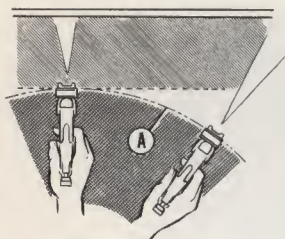

Fig. 103
The stroke is made with a free arm motion, keeping the gun at right angles to the surface at all points of the stroke. The ends of the strokes are "feathered" out by triggering the gun. Correct triggering involves beginning the stroke before pulling the trigger and releasing it just before ending the stroke. (See Fig. 103.) Arcing the gun (A) results in uneven application and excessive overspray at each end of the stroke. When the gun is arced 45° away from the surface, approximately 65% of the material is lost. *Lap each stroke 50% over the preceding one.* Less than 50% overlap will result in streaks on the